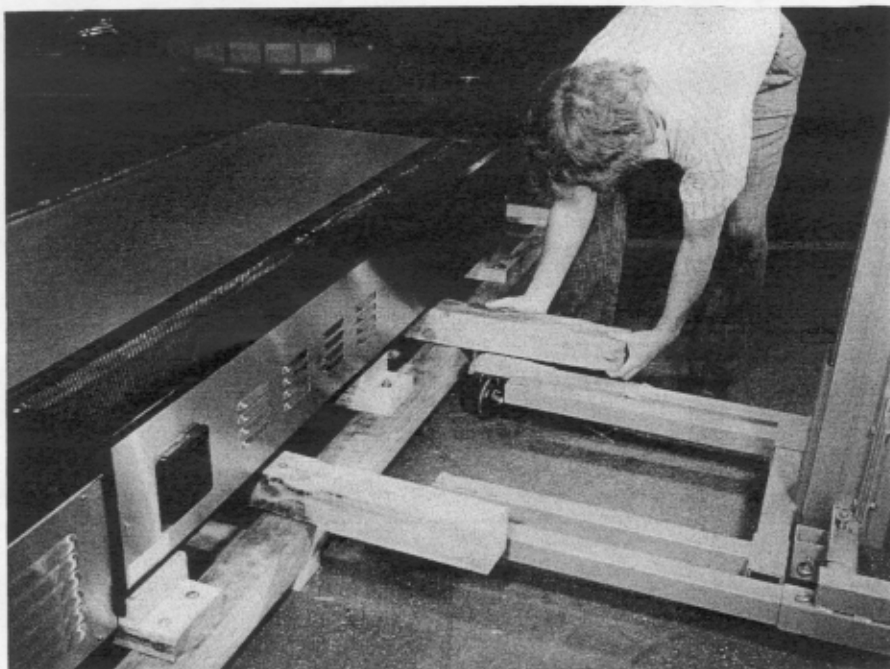

Figure 2-5
1. Position the two 4" x 4" x 7' boards between oven and crate, as shown in Figure 2-5, so that 2' extends on each side of oven.